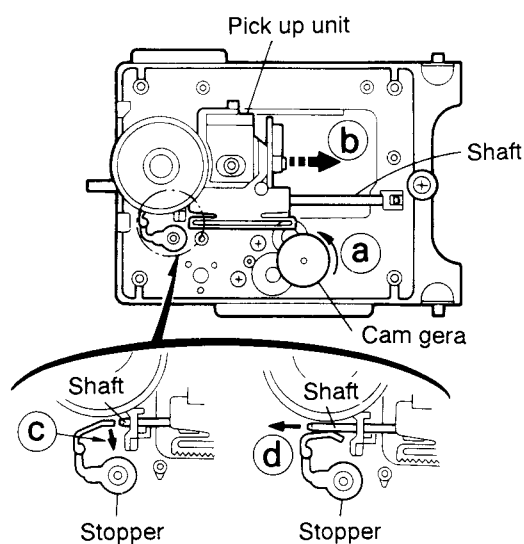

Fig. 5-27
■ Removing the CD pickup unit (See Fig. 5-27).
2. According to the above step, shift the CD pickup unit to the center position (See Fig. 5-27).
3. While pressing the stopper retaining the shaft in the arrow direction (c), pull out the shaft in the arrow direction (d) (See Fig. 5-27).